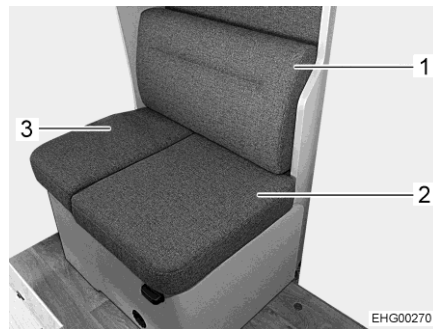

Fig. 10 Removing cushions
- Remove back cushion (Fig. 10,1) from the divan.
- Remove large and small seat cushion (Fig. 10,2 and 3) from the divan.